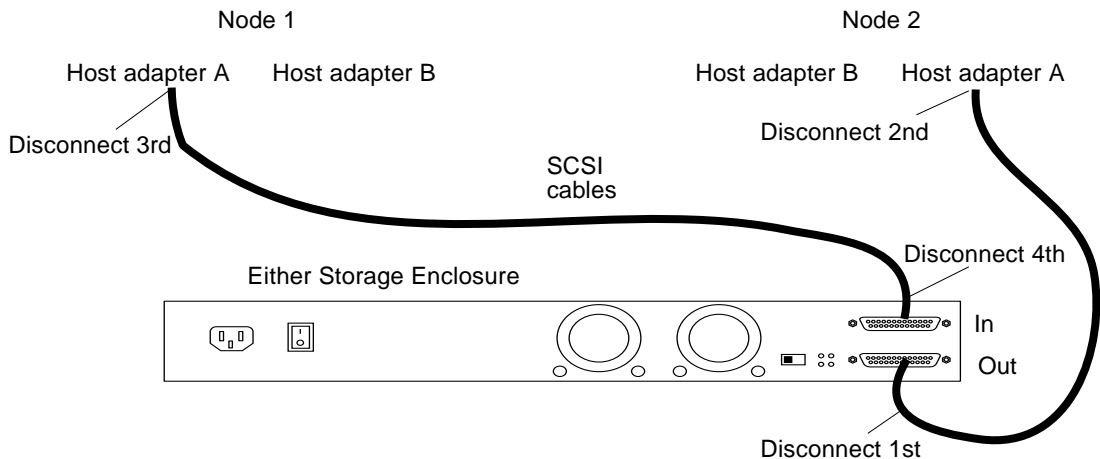

FIGURE D-8 Disconnecting the SCSI cables
2. **Disconnect the SCSI cables from the Netra D130/StorEdge S1 enclosures, disconnecting them in the order shown in FIGURE D-8.**